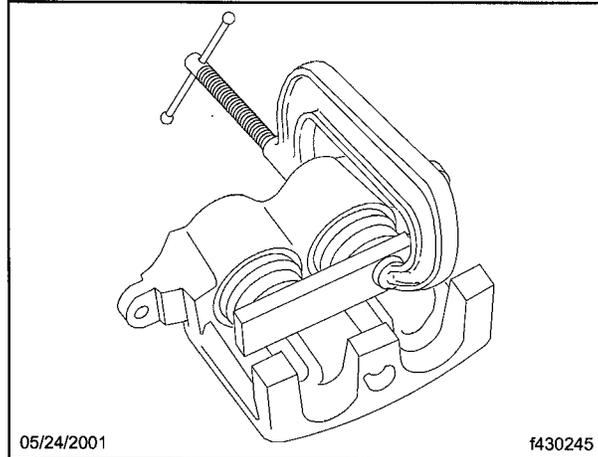

Fig. 7, Retracting Pistons Into the Caliper
18. Position a metal plate across both caliper pistons. Use a C-clamp to push both pistons into the caliper to provide clearance for the new disc brake pads. See **Fig. 7**.